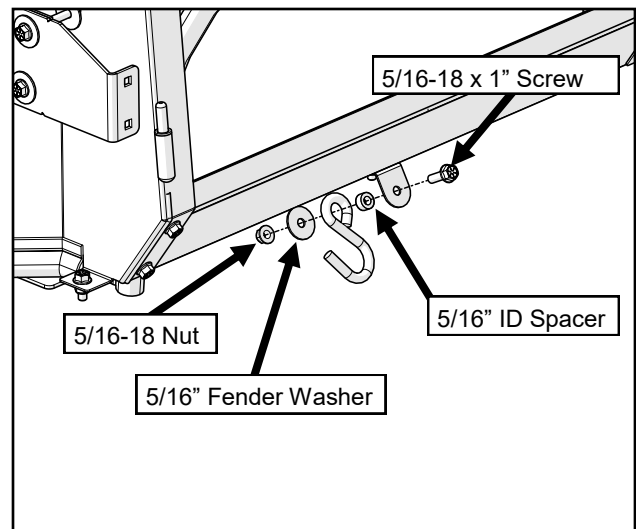

Fig. 18.2 (Install Top Link Hook)
- 18.2 Install the top link hook to the top link bracket. See Figure 18.2. Note: Orientation of the hook opening is personal preference.